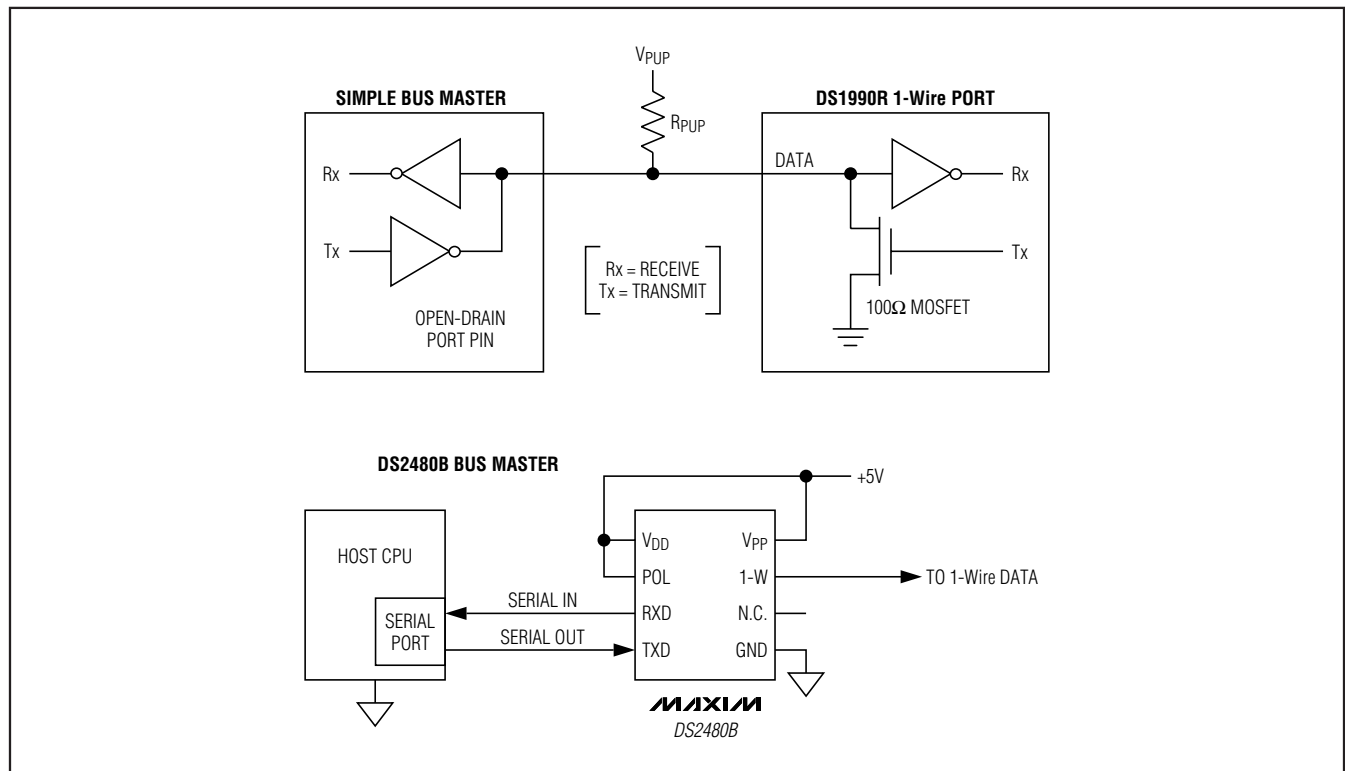

Figure 4. Hardware Configuration
**Note 2:** External pullup voltage. See Figure 4.
The 1-Wire bus has only a single line by definition; it is important that each device on the bus be able to drive it at the appropriate time. To facilitate this, each device attached to the 1-Wire bus must have open-drain or three-state outputs. The 1-Wire port of the DS1990R is open drain with an internal circuit equivalent to that shown in Figure 4. A multidrop bus consists of a 1-Wire bus with multiple slaves attached. At standard speed, the 1-Wire bus has a maximum data rate of 16.3kbps. The value of the pullup resistor primarily depends on the network size and load conditions. For most applications, the optimal value of the pullup resistor is approximately 2.2k $\Omega$ . The idle state for the 1-Wire bus is high. If for any reason a transaction needs to be suspended, the bus **must** be left in the idle state if the transaction is to resume. If this does not occur and the bus is left low